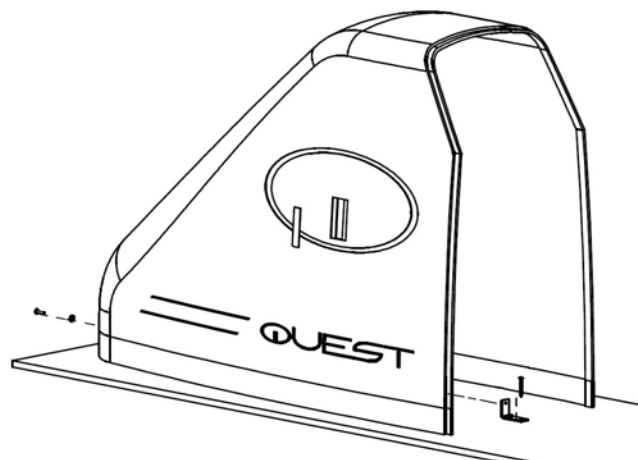

Figure 17, Hood Installation
5. Replace the hood and attach it to the Front Hood Bracket using a 10-32 x 3/4 round head screw and a 7/32 x 1/2 x 3/64 flat washer (See figure 17).